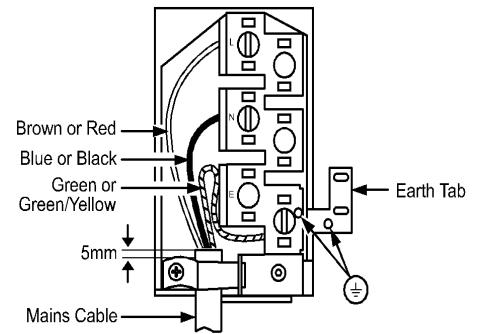

Fig.1
- Do not remove the screws from the earth tab extending from the oven mains terminal block (Fig. 1).